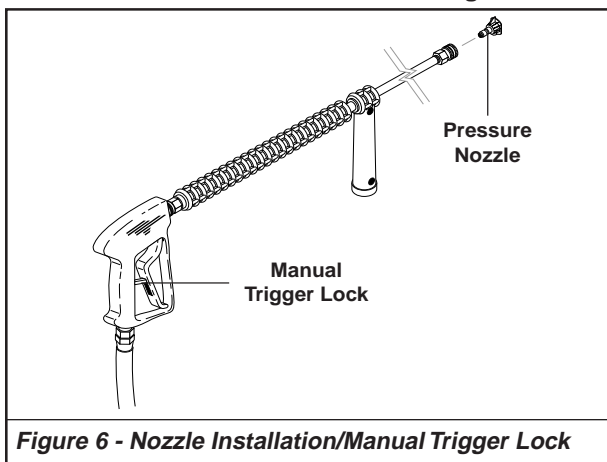

Figure 6 - Nozzle Installation/Manual Trigger Lock
7. Install the proper pressure nozzle for your cleaning needs on the end of wand, refer to **Figure 6**.
IMPORTANT: The trigger gun provided with this pressure washer is equipped with a manual trigger lock to prevent accidental operation of the trigger gun. (Refer to Figure 6.) The manual trigger lock should be used whenever the trigger gun is not in use.